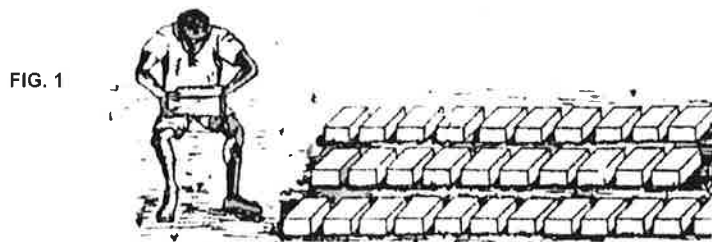

FIG. 1
- (b) Place it on leaves, grass or boards on flat ground. The block should not touch the ground. (Fig. 1).